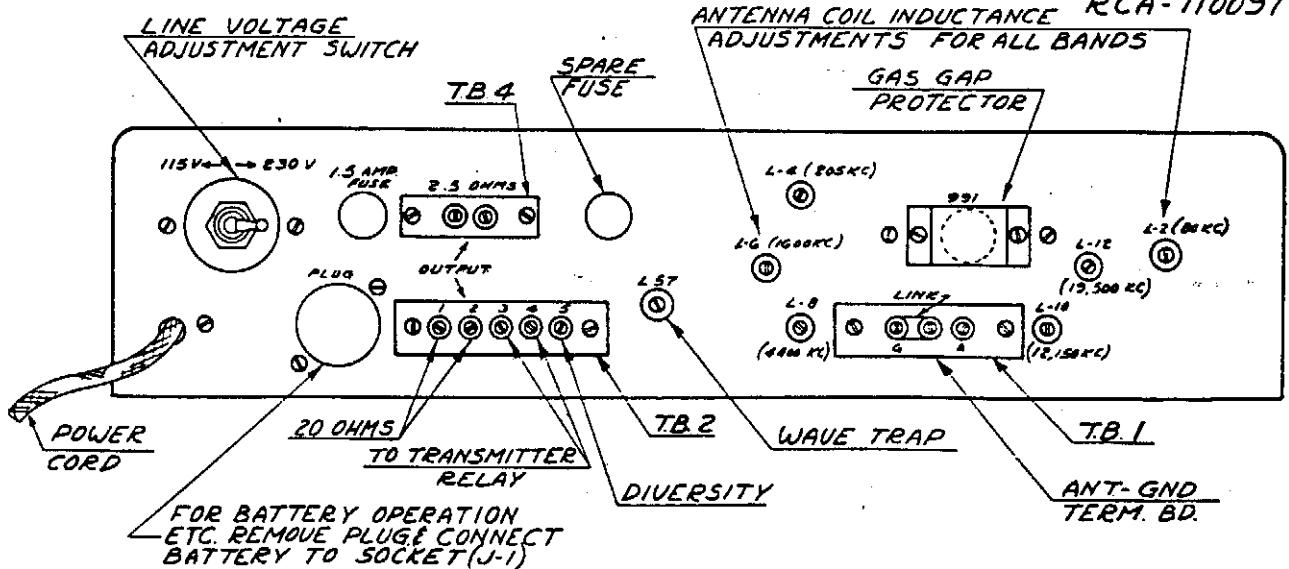

Figure 3.—General Purpose Communications Receiver—Rear Apron
The antenna terminal board is provided with three terminals (see Figures 3 and 7), two of which may be joined together with a link. When a single wire antenna is used, the link should be closed and the antenna connected to "A". If a ground is used, it should be connected to "G".
4.5 Speaker:—Terminals for connection of a loud-speaker are indicated in Figures 3 and 7. The output transformer is designed to match a p.m. dynamic speaker having 2.5 ohms impedance.
2. Transmit position which gives energized tube filaments, open plate circuits, and shorted terminals (for transmitter relay) on the speaker terminal board on the back of the chassis. (3. & 4. on T.B.-2.). Connect relay to these two terminals for transmitter operation. (See Figure 3.)
Refer to Figure 3: Connect together the terminals, marked "Diversity" of the receivers, and equip each receiver with a separate antenna. Tune each receiver to the same station as explained in Section 5.12 above.